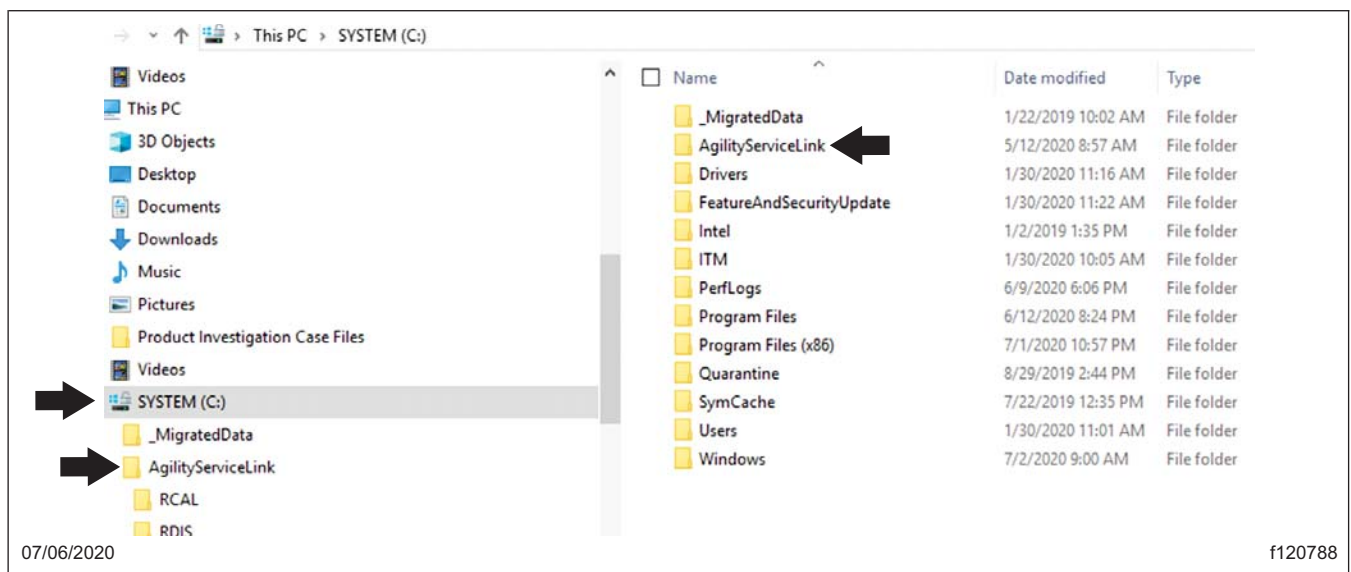

Fig. 18, Directory Window
- Browse through the directory where the Agility service link calibration folder was installed earlier [C:\AgilityServiceLink] and double click the Agility Service Link folder. See Fig. 18.